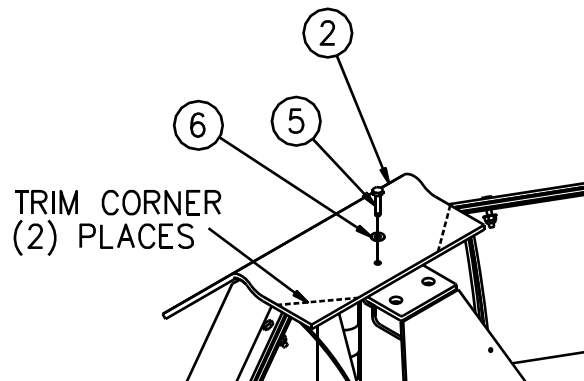

Figure 7. Center Flap Installation G10023
- Fold Center Belting (2) over the top of the Plow as shown in Figure 7.
- Drill a hole through Center Belting (2) that is centered and 1-1/2" from the back edge of Center Belting (2). See Figure 7.
12. Using one 1/2" Hex Head Bolt (5) and one 1/2" Flat Washer (6), attach Center Belting (2) to the top of Center Section by utilizing the threaded hole that is located behind the Vertical Hinge Pin.
13. Remove any excess material from the lower back of Center Belting (2) so that it does not interfere with the Plow operation. See Figure 7.